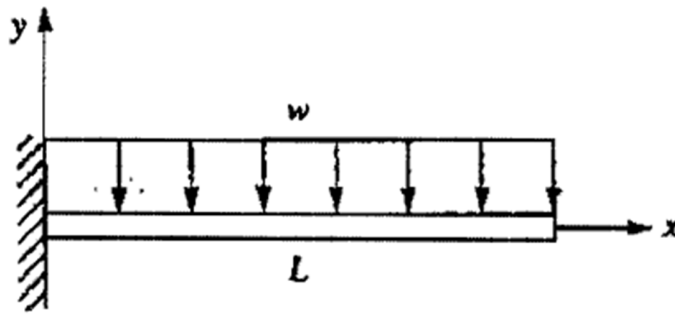

Figure 4
- (b) For the cantilever beam subjected to the uniform load w as shown in Figure 4, determine the vertical displacement and rotation at the free end. Assume the beam to have constant EI throughout its length. [7M]